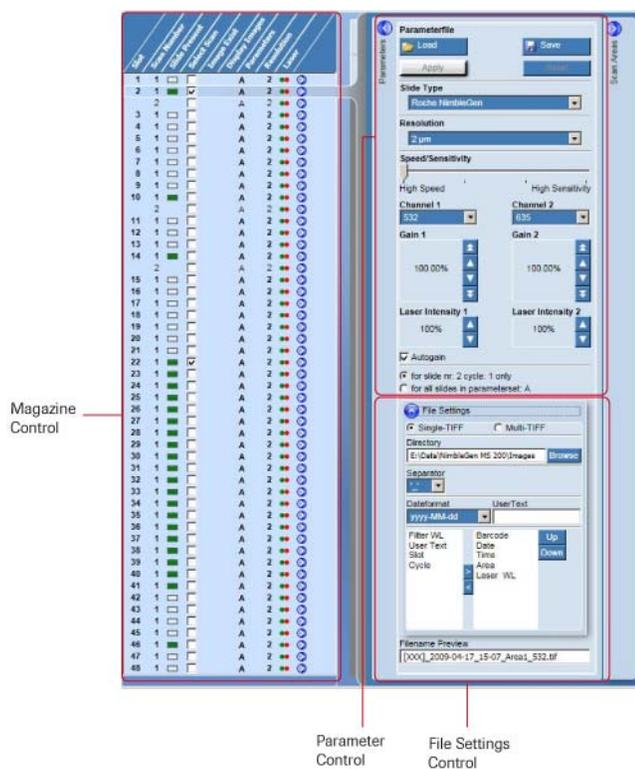
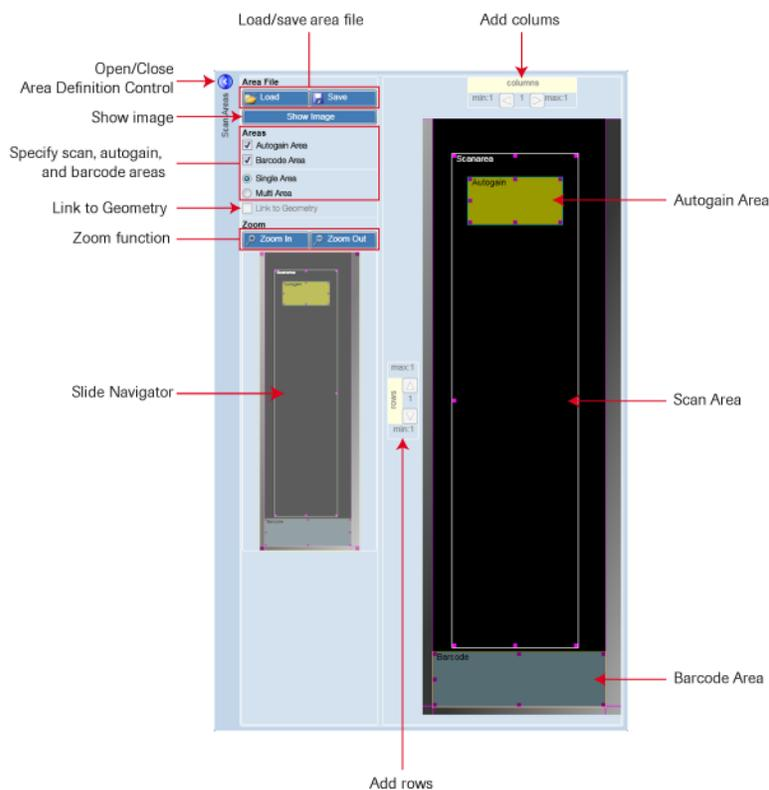

Figure 4: Magazine Control, Parameter Control, and File Setting Control
Figure 5: Components of the Area Definition Control
7. Review the Magazine Control (Figure 4) in the Data Collection Software. Ensure that a green box appears in the *Slide Present* field for each slide loaded into the slide magazine.
8. Use the Parameter Control (Figure 4) to set the parameters to use when scanning:
9. Use the File Settings Control (Figure 4) to specify image file settings:
- a. To open the File Settings Control if not displayed, go to the row of a slide to scan in the Magazine Control and click its **Open Parameter Control** button (🔍) (Figure 4). In the Parameter Control, click the **Open/Close File Settings** button (🔍) to open the File Settings Control.
- f. (Optional) To save the file settings to a file, click **Save** in the Parameters Control (Figure 4).
10. Use the Area Definition Control (Figure 5; denoted as *Scan Areas* in the software interface) to set scan, barcode, and autogain areas.
- a. To open the Area Definition Control if not displayed, in the Parameter Control, click the **Open/Close Area Definition Control** button (🔍) (shown on the right side of Figure 4 above the *Scan Areas* label in the software interface). Figure 5 shows the components of the Area Definition Control.
- *Autogain area* checkbox, if the Autogain checkbox was selected in the Parameter Control (Figure 4)
16. Once the scan of a slide is completed, a blue **Displays Images** button (🖼️) appears in the *Display Images* field of the Magazine Control (Figure 4). Move the mouse pointer over the button to display the directory location and file name of the acquired image. Click the blue **Displays Images** button (🖼️) to display the image (both images) in the Image View.